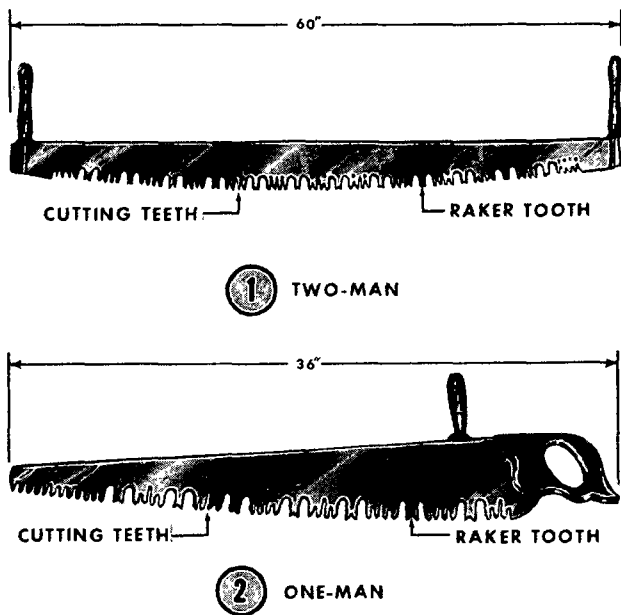

Figure 11. Large crosscut saws.
1. *Two-man crosscut saw.* This saw (1, fig. 11) is a double handled saw used for heavy work such as felling trees, cutting large trees into logs, or sawing heavy bridge timbers. The blade is from 5 to 6½ feet in length. The saw is operated by two men, each man pulling the saw towards himself, being careful not to pinch the hands of the other man between the handle and the tree. As the saw is pulled, only guiding, not pushing by the other man, is required to prevent binding.
2. *One-man crosscut saw.* This saw (2, fig. 11) is shorter than the two-man saw, being 36 inches in length. It has two handles, one of which is shaped like that of the handsaw; the other is detachable and clamped to the top edge of the saw. This handle may be placed either at the
heel, for one-man operation, or near the toe for two-man operation (2, fig. 11). The one-man saw is operated like the handsaw, using the detachable handle to aid in pulling the saw back. When used as a two-man saw, it is used as described in